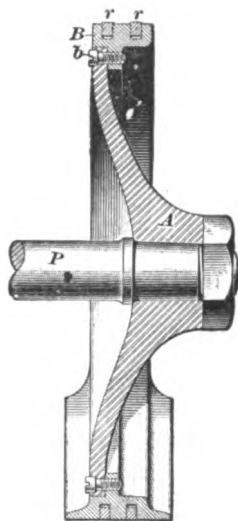

FIG. 17.
17. Figs. 16 and 17 illustrate two pistons of more modern construction than those just described. Each is made in two parts, the spider  $A$  being of cast steel, and the ring  $B$  of cast iron; steel is used so as to decrease the weight of the piston as much as possible. The ring  $B$  of the piston shown in Fig. 16 screws on to the spider, as shown, and the joint on the opposite side at  $j$  is riveted over to prevent the ring from working loose. The ring  $B$ , Fig. 17, is turned up  $\frac{1}{16}$  inch smaller in diameter than the spider, and is then shrunk on. The ring and spider are fastened together with a number of bolts  $b$  that pass through the spider and also through lugs on the ring. The ring, at its bottom, is enlarged in width—about  $1\frac{1}{2}$  times. This is done for the purpose of increasing the wearing surface without increasing the weight of the piston unnecessarily. In this design the cylinder heads conform to the shape of the piston,